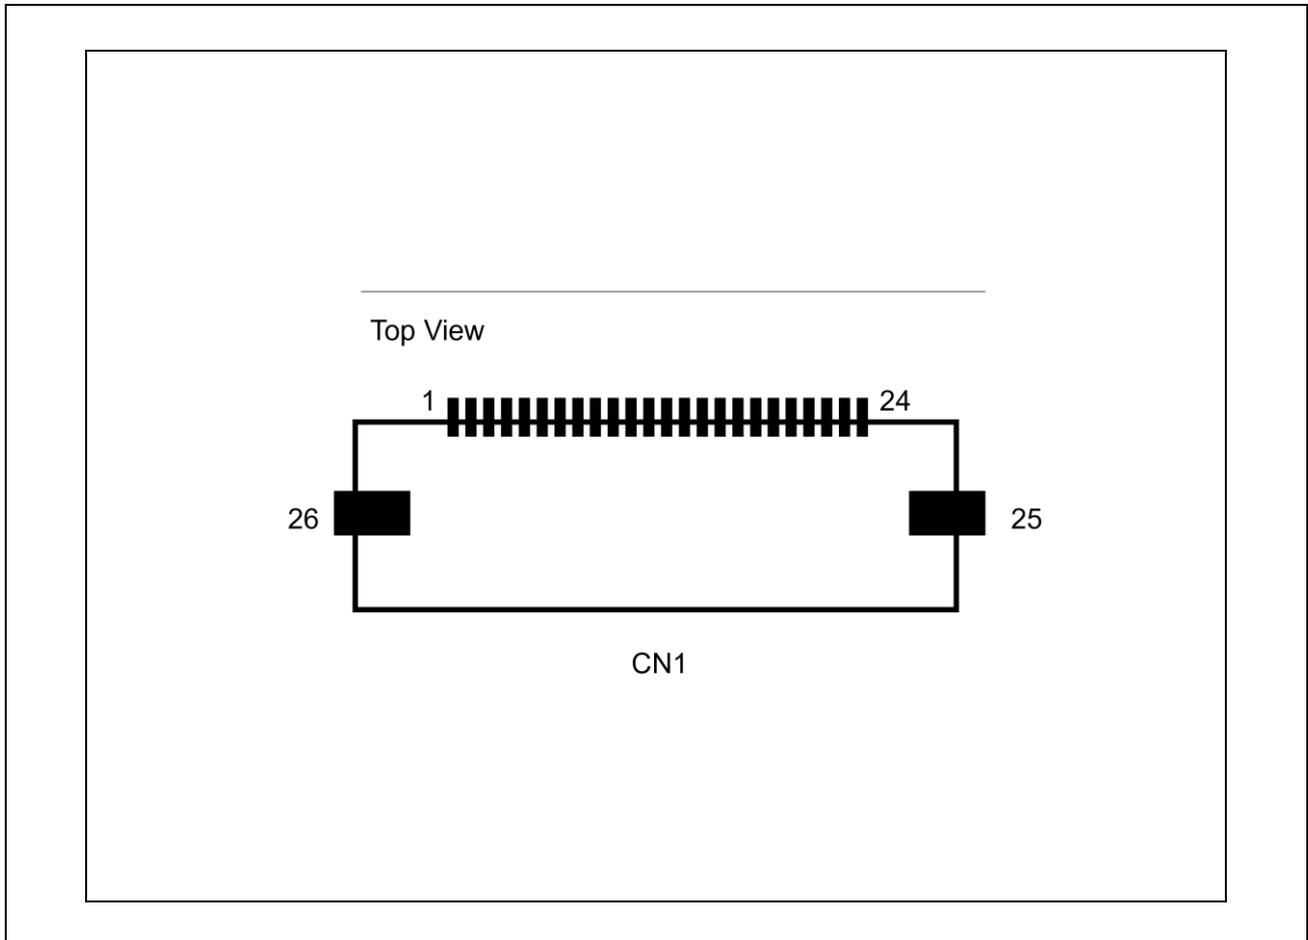

Figure 3.2 Camera Connector (CN1) Pin Layout Diagram
**Figure 3.2** illustrates the layout of Camera Connector pins. **Table 3.1** shows the assignment of Camera Connector pins.